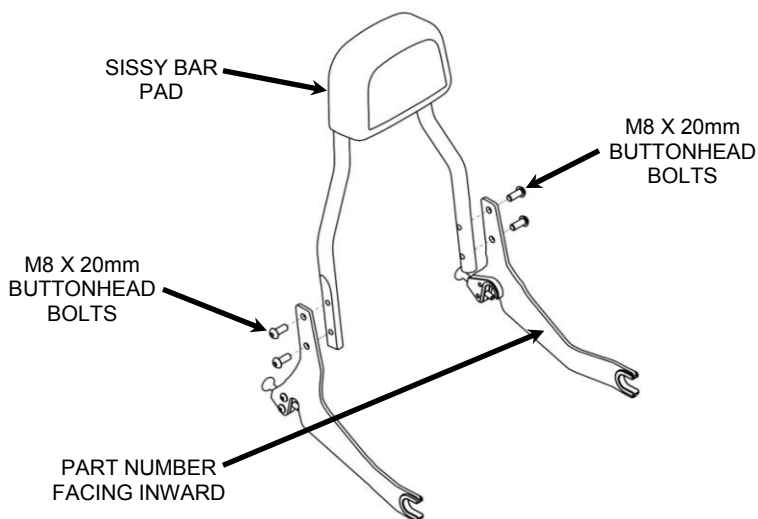

FIGURE 4
12. Install the supplied side plates on to the sissy bar with the four M8 X 20mm button head bolts. Make sure the u-shaped grommets are facing the same direction as the sissy bar pad and the part numbers are facing inward. See **FIGURE 4**. Snug the bolts but **DO NOT TIGHTEN** at this time.